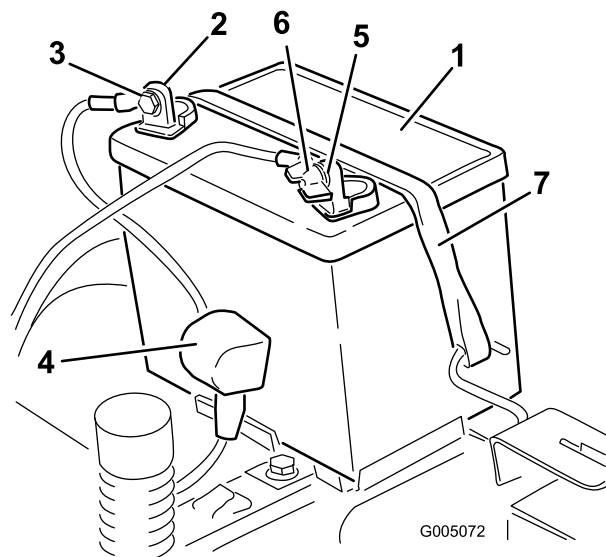

Figure 49
4. Disconnect the negative (black) ground cable from the battery post (Figure 49).
6. Disconnect the positive (red) cable from the battery post (Figure 49).
7. Remove the battery hold-down (Figure 49), and lift the battery from the battery tray.
1. Position the battery in the tray (Figure 49).
5. Secure the battery with the hold-down (Figure 49).